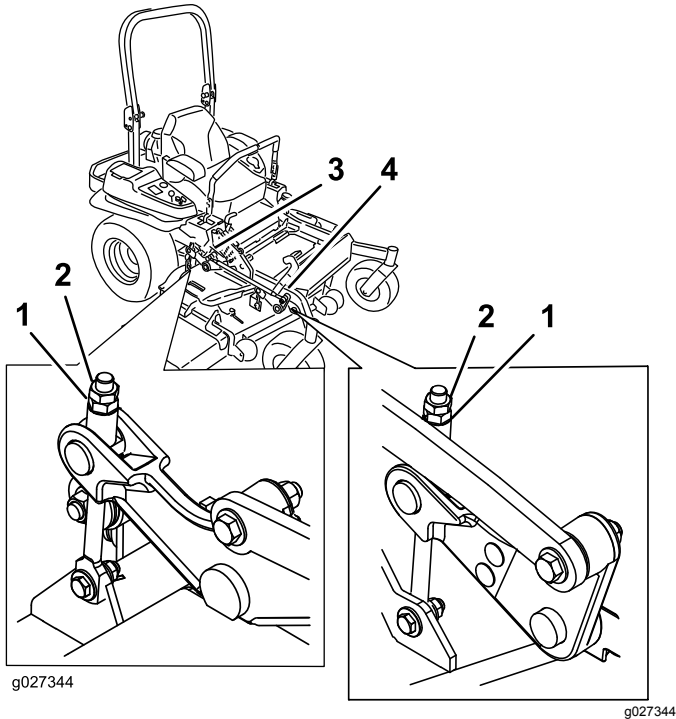

Figure 93
10. Fine-tune the adjustment nut on the front deck lift assembly by turning it (Figure 93).
- Fine tune the screw adjuster by turning it to get 8.3 mm (3-1/4 inches) height (Figure 93).